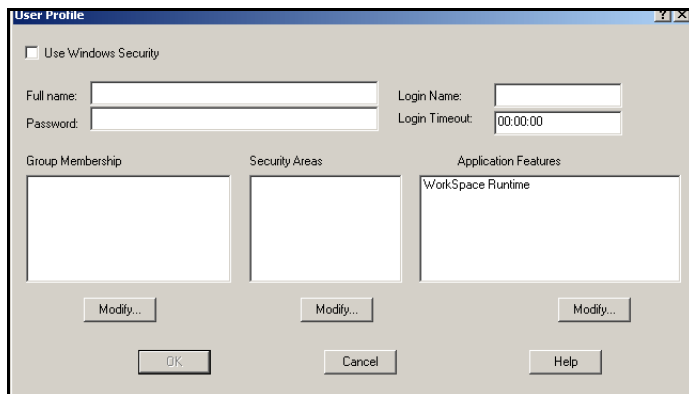

Figure 23: User Profile Window
3. From the User Accounts option, highlight a specific user and click the **Modify** button. The User Profile window (Figure 23 on page 37) opens.